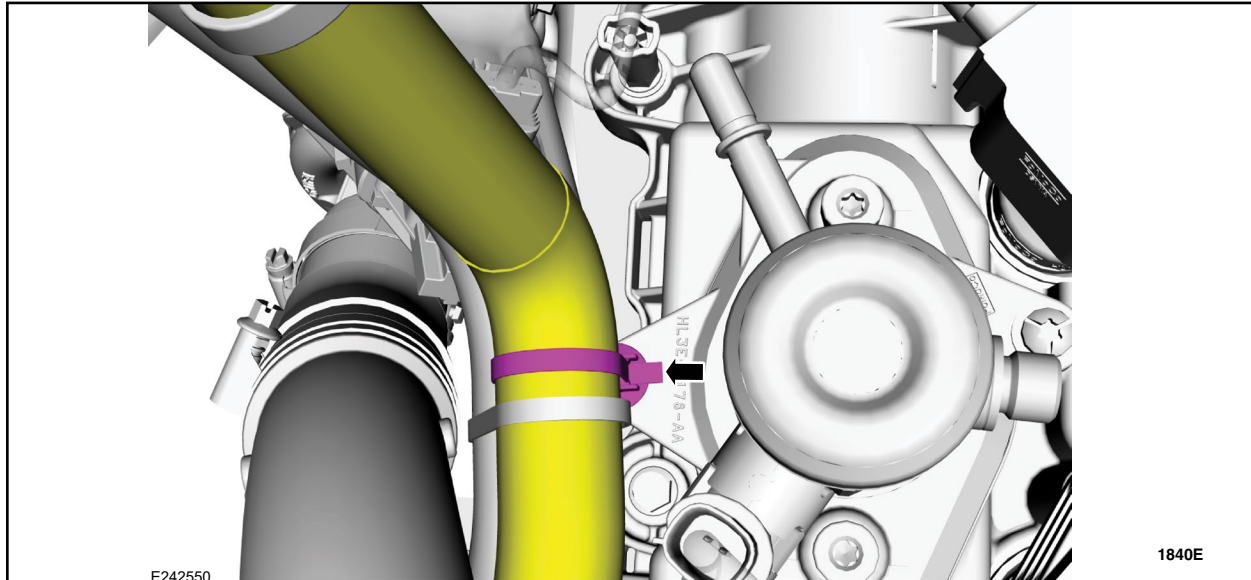

FIGURE 5
8. Detach the hose retainer. See Figure 5.
13. Attach the hose retainer. See Figure 5.